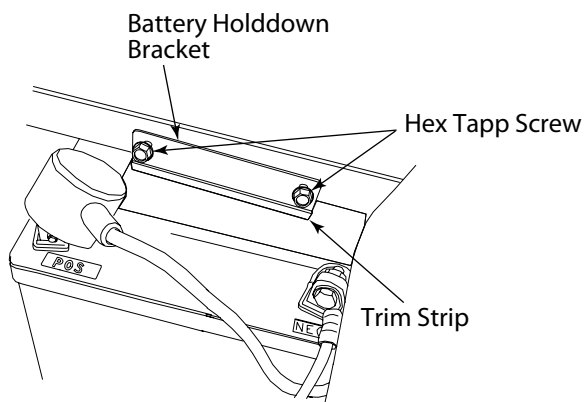

Figure 7-1
- Remove the two hex tapping screws from the battery holddown bracket and remove the bracket. Use care to avoid losing the trim strip from the bottom of the bracket. See Figure 7-1.